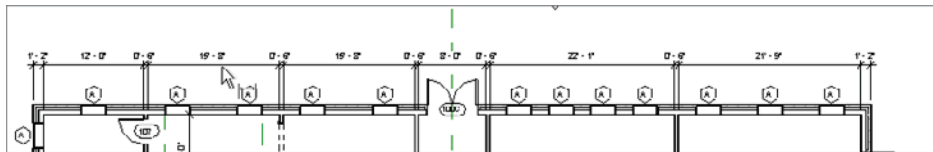

FIGURE 5.4 By choosing the Entire Walls option, you can add an entire string of dimensions in one click.
8. Zoom in on the north wall, as shown in Figure 5.4.
10. Pick a point (to place the dimension) approximately 8' (2400mm) above the north wall (see Figure 5.4).